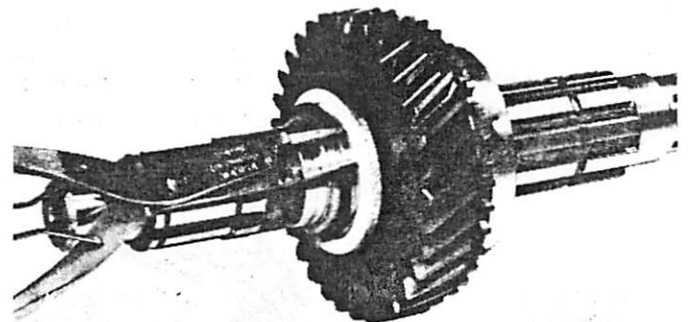

Fig. 2B-74 Second Gear and Thrust Washer Installation
**NOTE:** The first-second synchronizer clutch sleeve shift fork groove must face the rear of the mainshaft (fig. 2B-75).
(5) Install third gear on mainshaft and install blocking ring on gear.